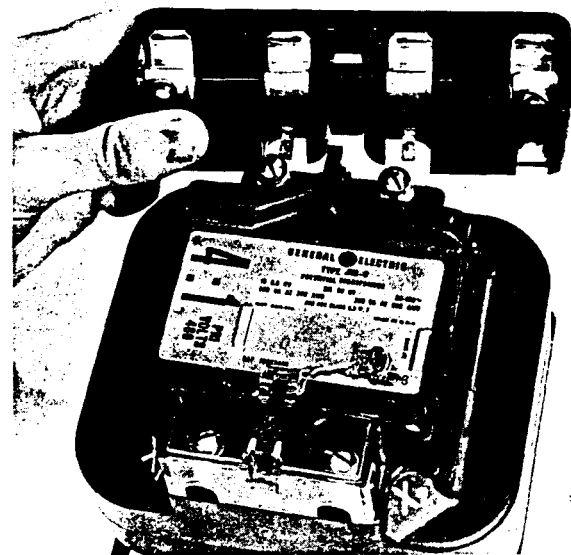

Figure 1
1. Loosen the primary terminal screws and insert the fuse tub snugly against the transformer butyl. See Fig. 1. (It is not possible to put the fuse tub on the secondary side, because it has a built-in interference fit.)